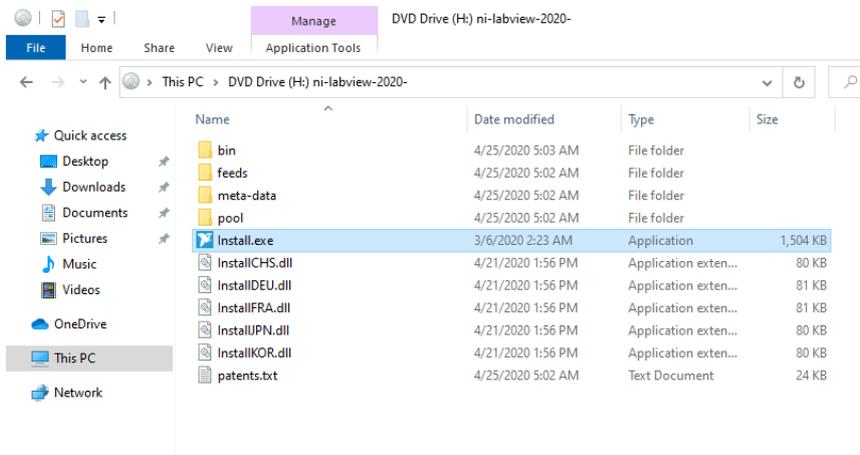

Figure 2-11 List of files in Install folder
6. When mounting is finished, a virtual DVD drive will be made and all the files in the ISO file will be displayed. Double click on “Install.exe” and run it (Figure 2-11).